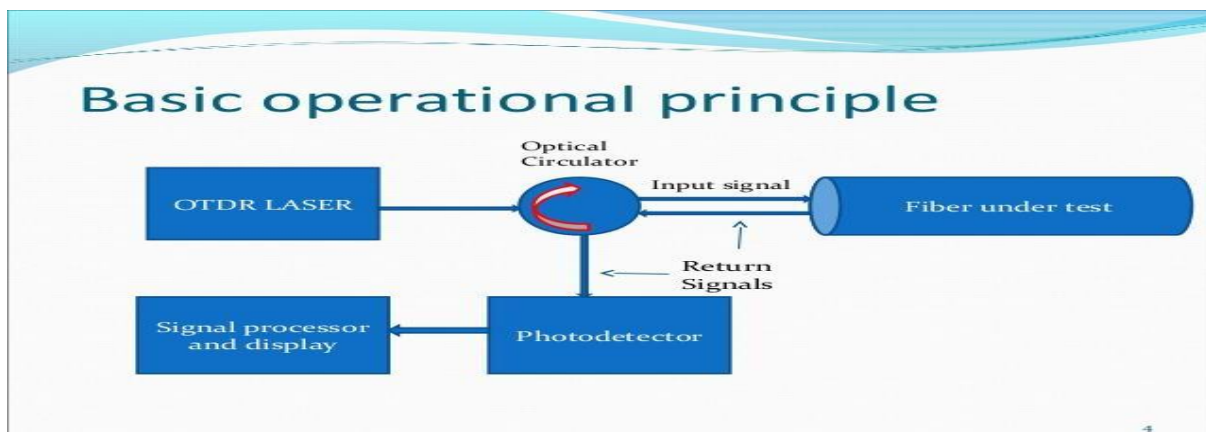

Fig 1. Working principle of OTDR
- The above figure 1. shows the basic operating principle of OTDR.